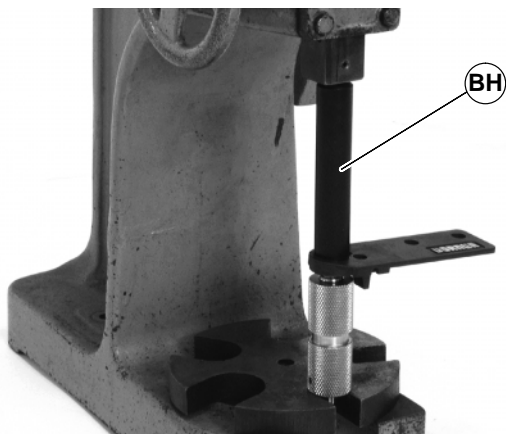

Figure 39
1. With bearing installed in head plate, use a bearing installation tool, (BH of Figure 39), part number 450292, to press the bearing onto the drive shaft.